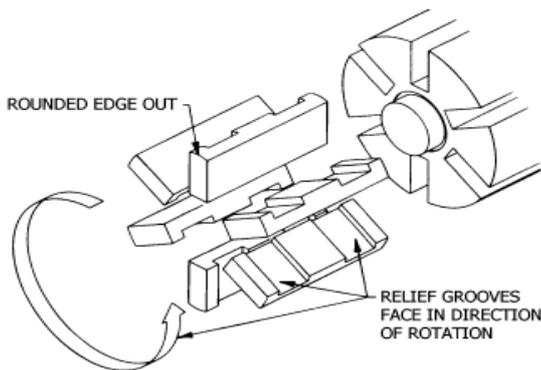

Figure 4 – Vane Replacement
4. Install a new vane, ensuring that the rounded edge is UP, and the relief grooves are facing towards the direction of rotation. See Figure 4.
4. Install the head (20) on the outboard side of the cylinder. Install and snug up four head capscrews (21) 90° apart.
5. Hand pack the ball bearing (24) with grease. Refer to "Lubrication" in the Pump Maintenance Section for therecommended grease.
8. Remove the vanes (14) and push rods (77) from the rotor and shaft assembly. Inspect for wear and damage, and replace as follows:
- a. Partially install the non-driven end of the rotor and shaft (13) into the open side of the pump cylinder.
- b. Leave part of the rotor outside of the cylinder so that the bottom vanes can be installed and held in place as the push rods are installed in the push rod holes of the rotor. Insert the new vanes into the rotor slots with the rounded edges outward, and the vane relief grooves facing TOWARDS the direction of rotation. Refer to Figure 4 in "Vane Replacement."